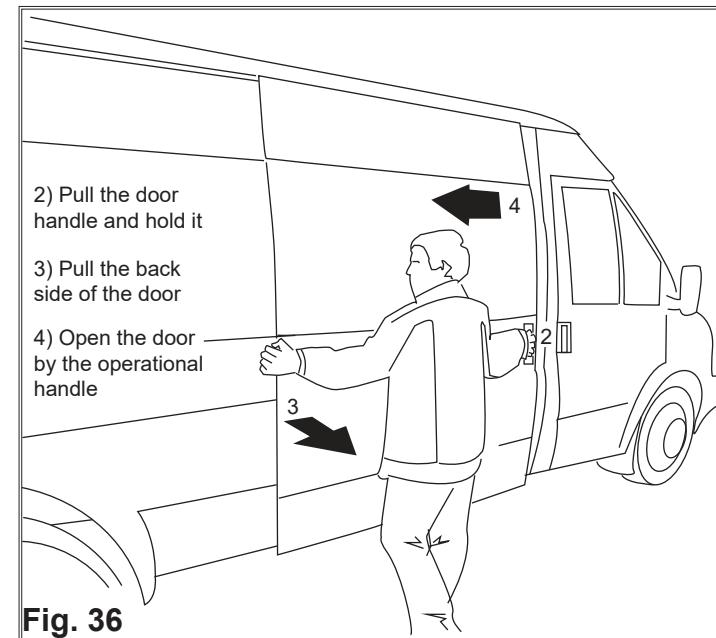

Fig. 36
2. Pull and hold the door handle (Fig. 36).
3. Pull the left-hand part of the door towards you (Fig. 36).
4. Open the door with the door handle to the left, (Fig. 36).